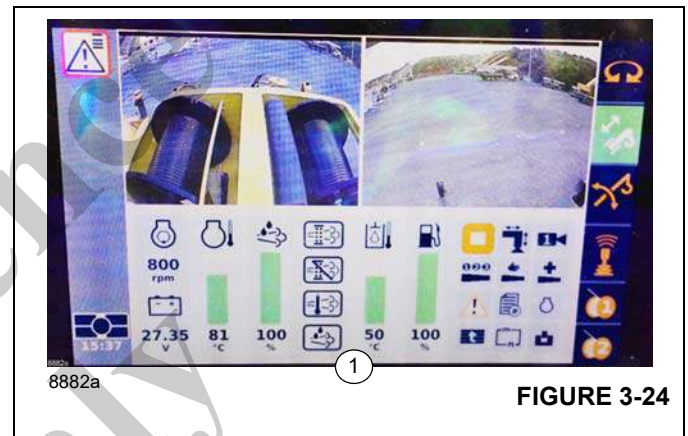

FIGURE 3-24
The start menu appears after switching on the ignition (1), (Figure 3-24).